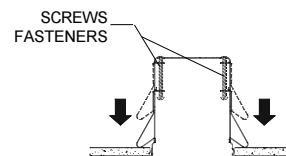

FIG.8
1. Screw both fasteners screws. (Fig.8)